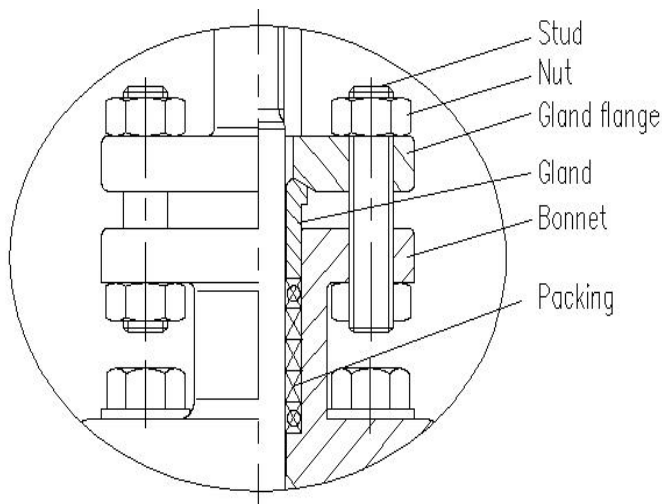

Figure 4 Valve Packing Bore Details
6.3.1 Relieve valve body internal pressure, loosen the eye bolts, and remove the gland flange and packing gland (see Figure 4). Lift the flange and gland as high as possible and secure for easy access to the valve packing.